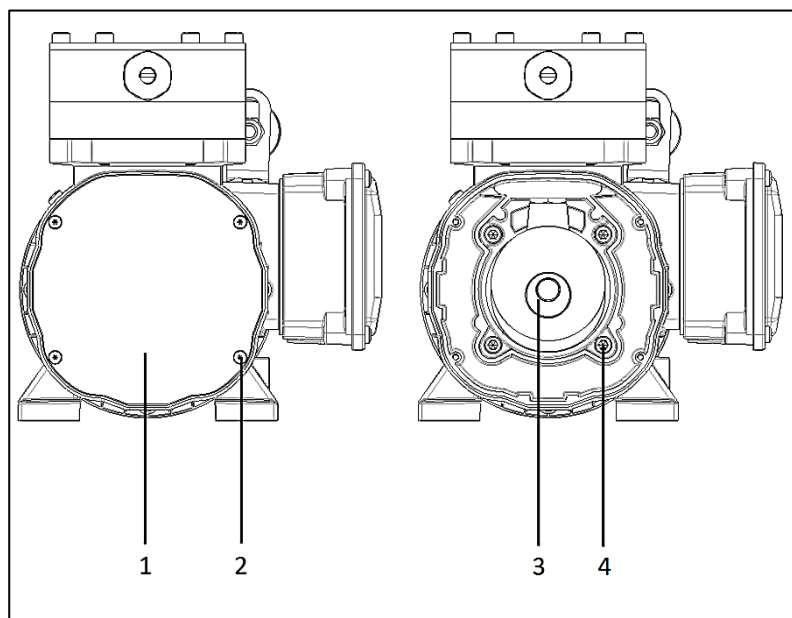

Fig. 7:
1. Undo and remove the four Allen screws (Fig. 7/2) from the housing cover (Fig. 7/1).
2. Remove the housing cover (Fig. 7/1)
**i** The eccentric crank assembly (Fig. 7/3) and the four motor mounting screws (Fig. 7/4) are visible.
3. Undo and remove the four motor mounting screws (Fig. 7/4).
5. Reinsert and tighten the four motor mounting screws (Fig. 7/4) (tightening torque: 6 Nm)
6. Replace the housing cover (Fig. 7/1) and tighten with the four Allen screws (Fig. 7/2) (tightening torque: 15 Ncm).